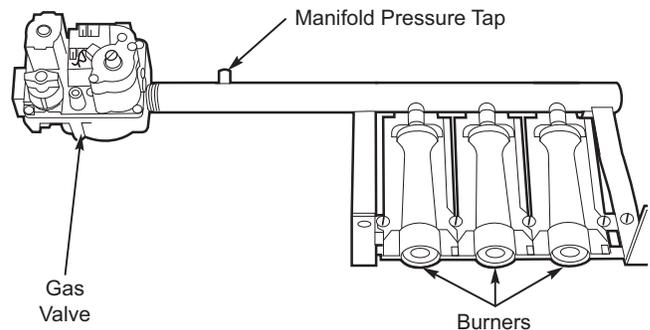

Fig. 38 — Burner Tray Details
10. Slide the burner tray out of the unit (see Fig. 38).
2. Remove manifold pressure tap plug from manifold and connect pressure gauge or manometer. (See Fig. 38.)
11. Turn off unit, remove pressure manometer and replace the manifold pressure tap plug. (See Fig. 38.)